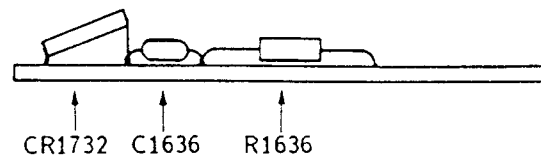

Fig. 4-25. CR1732 Dressing
2. Position sampling diode CR1732 so that side nearest stripline touches board and side opposite stripline is raised off board (see Fig. 4-25). Do not allow solder to enter hole in stripline next to diode.